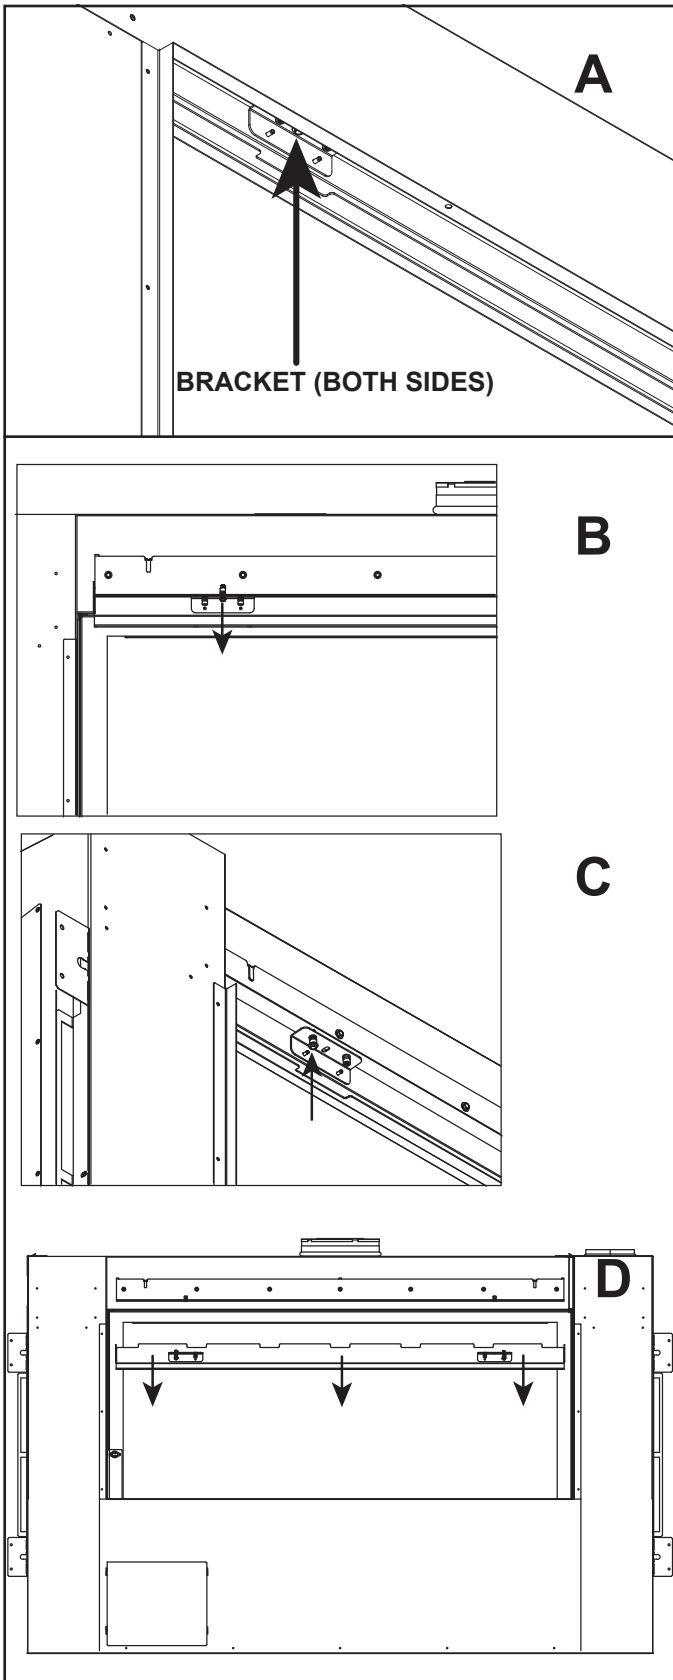

Figure 11.13 Removing Glass Retainer Bar Assembly
2. Locate the brackets, on the left and right sides of the glass retainer bar assembly, that hold the glass in position. See Figure 11.13 (A). Remove the screw from the hole in the center of the bracket. See Figure 11.13 (B).
3. Thread the screw into the rivnut in the bracket shown in Figures 11.13 (C) and 11.14. This will help to disengage the glass retainer bar assembly. Repeat steps 2 and 3 on opposite side.
4. Pull downward on the glass retainer bar assembly to disengage it from the retaining channel of the appliance. Remove the glass retainer bar assembly. See Figure 11.13 (D).